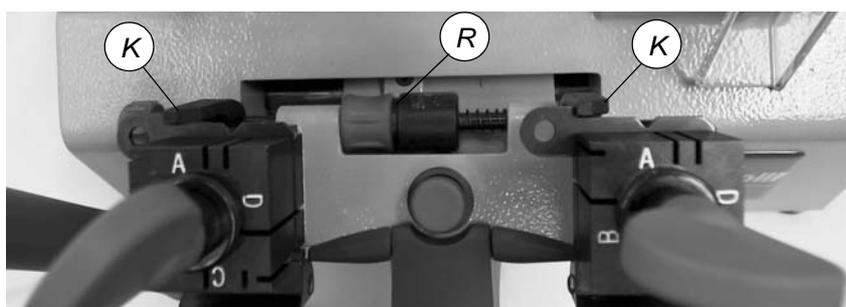

Fig. 10
- 1) Turn off the master switch (C) to operate safely and prevent activation of the cutting tool.
- 2) Place the adjusting key (provided) in the clamps (fig.10) with the notch facing the cutting tool and tracer point and proceed as follows:
- a) ensure that the keys adhere to the clamps and that the callipers (K) are in full contact with the stops.
- b) to take the callipers into contact with the keys, rotate the drum (R) towards you (away from you to return to the ideal position)